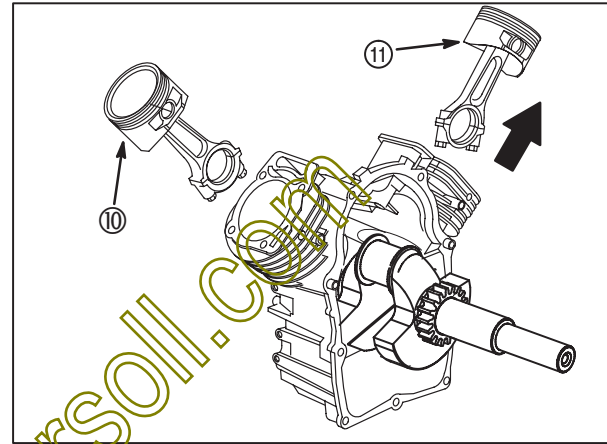

Fig. 27
2. Push connecting rod and piston assembly (11) out of #2 cylinder (arrow), **Fig. 27.** Reassemble cap to rod to prevent interchanging.
3. Repeat for #1 cylinder (10).